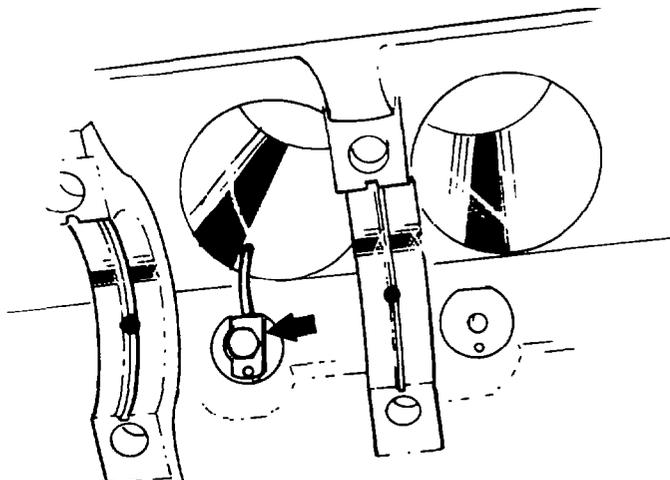

Fig. 54 — Removing Oil Spray Nozzles
- x. Remove the oil spray nozzles from inside the crankcase (see fig. 54); remove the cam followers.